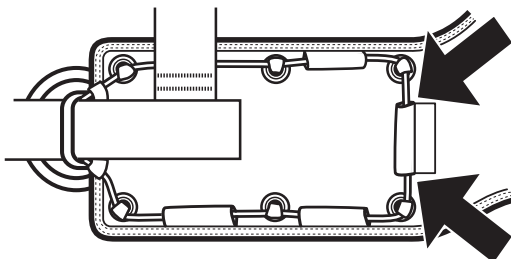

Figure 12
5. The weight release cables must pass through each of the pocket assembly mounting loops. Pull each mounting loop through the grommets and thread the cable through the loop. See Figure 12.